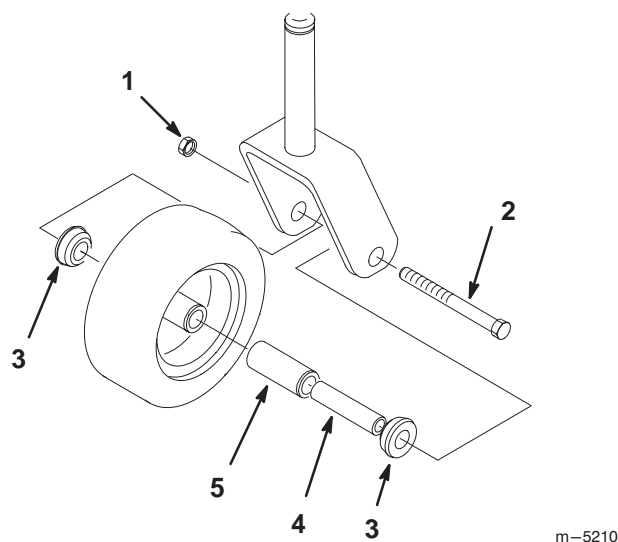

Figure 65
1. Remove the locknut and wheel bolt holding the caster wheel to the caster fork (Fig. 65).
2. Remove one bushing, then pull the spanner bushing and roller bearing out of the wheel hub (Fig. 65).
3. Remove the other bushing from the wheel hub and clean any grease and dirt from the wheel hub (Fig. 65).
4. Inspect the roller bearing, bushings, spanner bushing and inside of the wheel hub for wear. Replace any defective or worn parts (Fig. 65).
5. To assemble, place one (1) bushing into the wheel hub. Grease the roller bearing and spanner bushing and slide them into the wheel hub. Place the second bushing into the wheel hub (Fig. 65).
6. Install the caster wheel into the caster fork and secure with the wheel bolt and locknut. Tighten the locknut until the spanner bushing bottoms against the inside of the caster forks (Fig. 65).